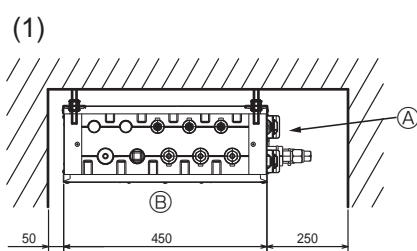

Fig. 2-1
#### (1) Front View (Fig. 2-1)